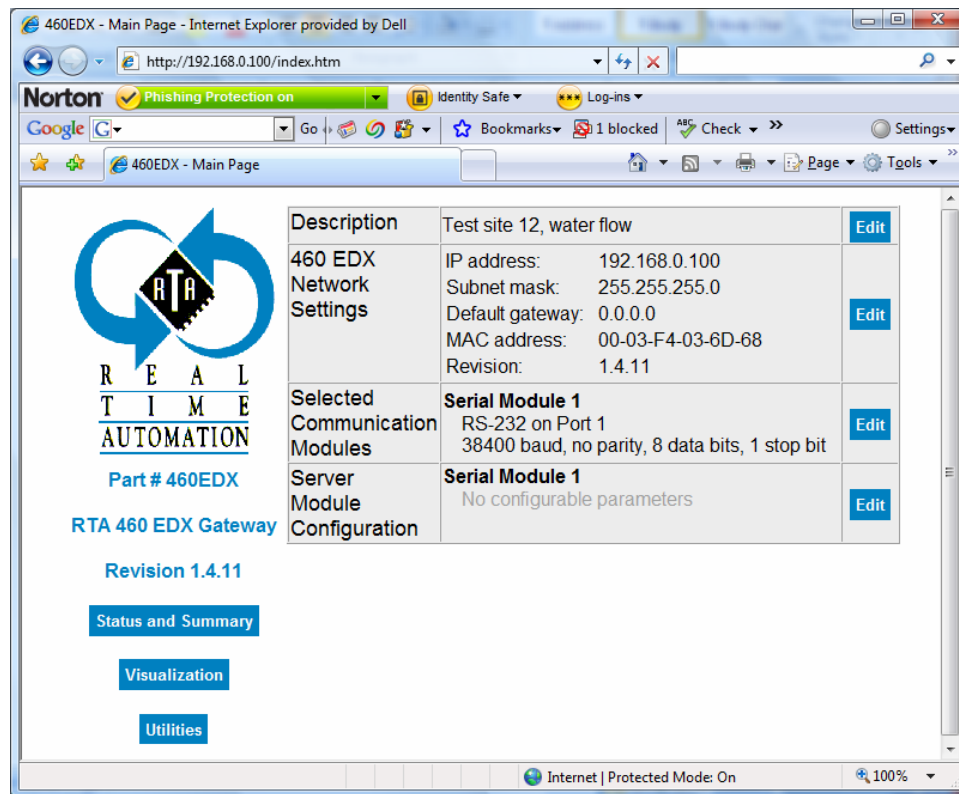

Figure 2-64 Serial Module Configuration
6. Click on the Return to Main button. The RTA 460 Gateway Main Page displays with a Client Module Configuration option. See Figure 2-64.